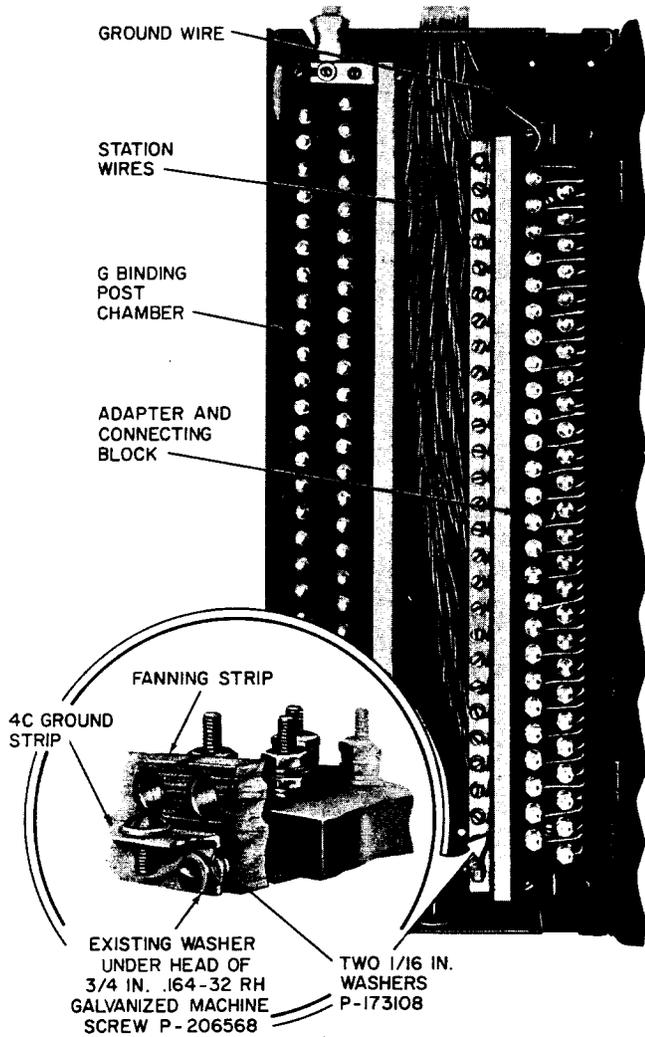

Fig. 10—Termination of GS-Type Triple Inside Wire
4.05 The method of terminating GS-type triple inside wire at a GC-type cable terminal is shown in Figure 10.